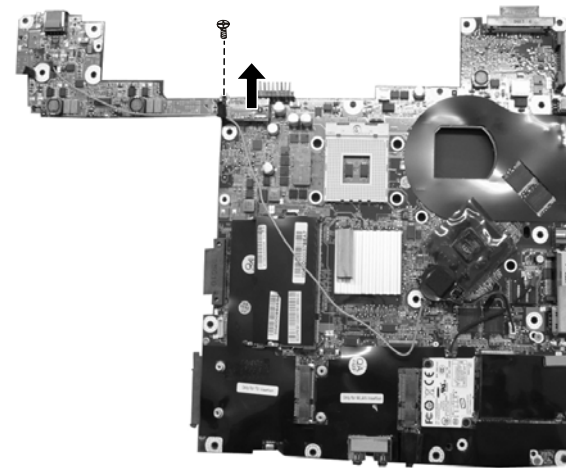

Figure 2-24 Free the daughter board
5. Carefully put the system board upside down and remove one screw. Then separate the bracket, now you can separate the daughter board from system board. (Figure 2-24)